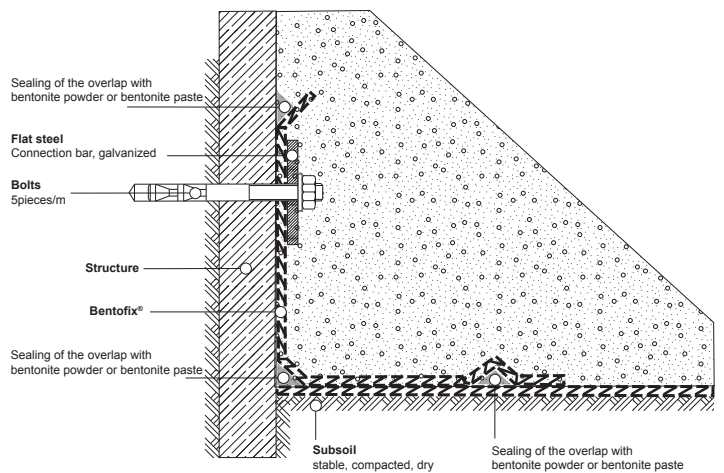

Fig. 14
18.2 Bentofix® may be secured to the structures by use of a stainless steel batten or clamp, mechanical fasteners, or other appropriate device if necessary for minimizing movement. A typical Bentofix® attachment to a concrete structure is shown in the figure 14.